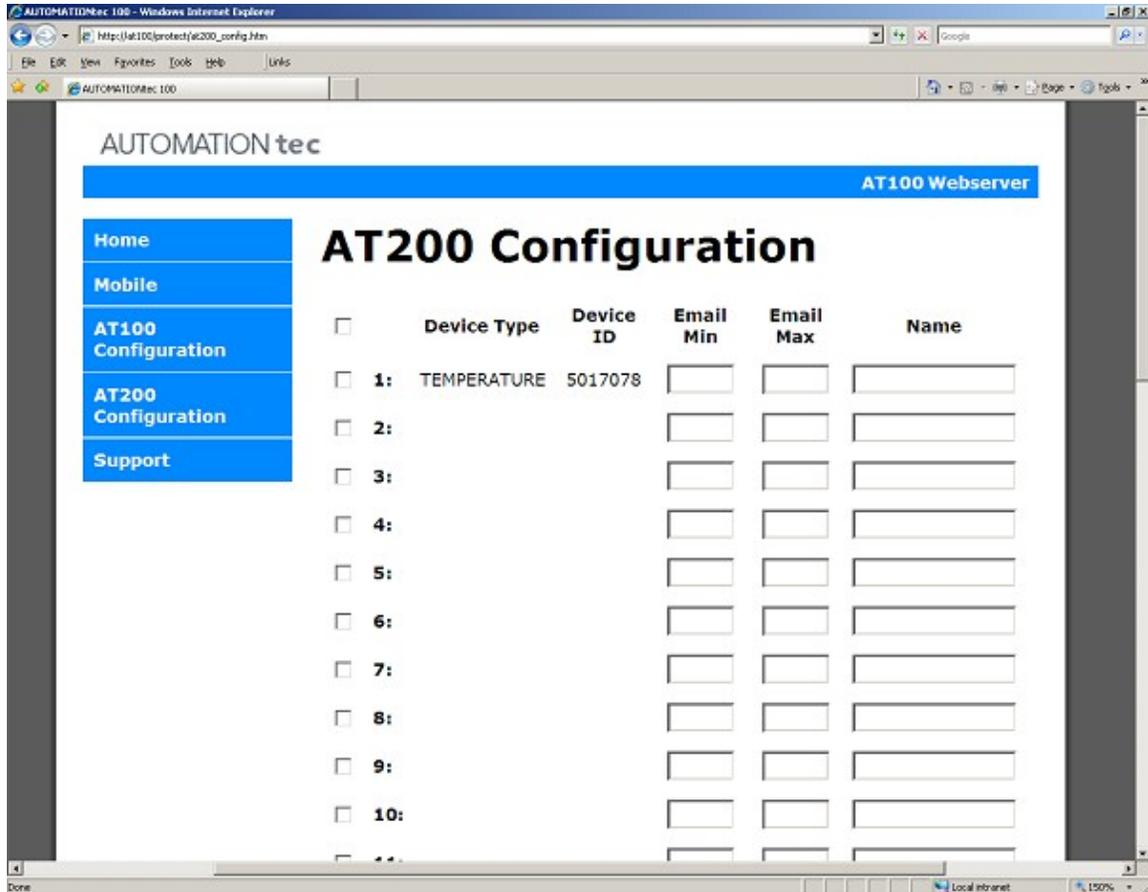

Fig 6
5. Refresh the AT200 Configuration page to see the learned AT200. The Device ID should match the serial number on the back of the AT200. (Fig 6)
A valuable feature of the AT100 is its ability to send alert emails for abnormal environmental conditions, such as a temperature reading outside of a defined acceptable range. This could be used to alert you about an abnormal situation like a heating or air conditioning breakdown, or other problem. If you look back at the AT200 configuration screen in Fig 6, you will see that each module has an "Email Min" and "Email Max" column. Use these text boxes to enter the allowable range that each sensor can return that you consider to be normal. If you set the "Alert Emails" radio button to "Yes" and then one sensor is reporting a value that is outside the defined acceptable range, you will receive an alert email for the first time the value goes out of range. The email will have the AT100's Host Name on the subject line and the body will show you the sensor's status in text, similar to this: